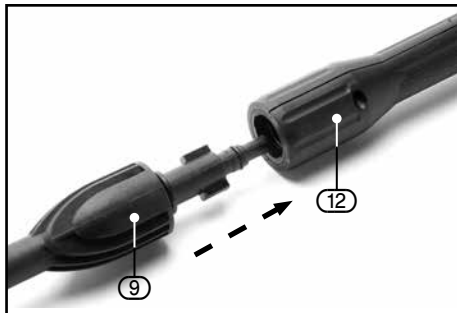
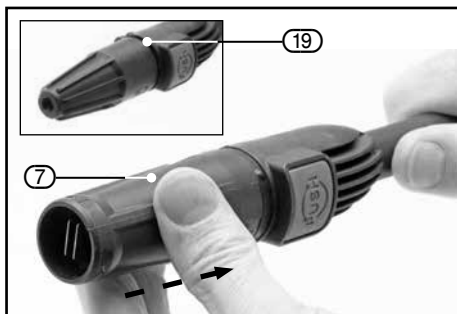

FIG.5
FIG.7
8.3 ATTACHING THE LANCE – FIGS.5 – 6
- Connect the lance (9) to the trigger assembly section (12) by pushing in the bayonet fitting and turning anti-clockwise 45° to lock in place.
8.4 ATTACHING THE NOZZLES TO THE LANCE – FIGS.7 – 8
- To connect either the spray nozzle (7) or turbo nozzle (19) to the lance (9), push-fit the nozzle into the end of the lance until it clicks into place. To remove, press the release button (9.1) on the lance to disconnect.